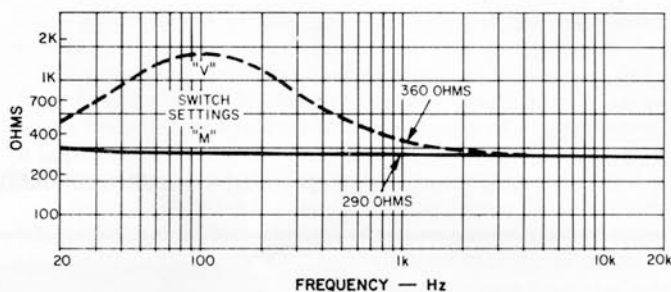

Fig. 1 — Impedance with the internal attenuator switch setting at "0" or -8 dB.
The impedance with flat response (M) setting (Fig. 1) is satisfactorily close to the 250-ohm nominal value. It is higher than the 180-ohm maximum value recommended by the EIA Standard for 150-ohm mikes, but a 250-ohm mike generally may be used with "unloaded" inputs rated from 150 to 600 ohms.